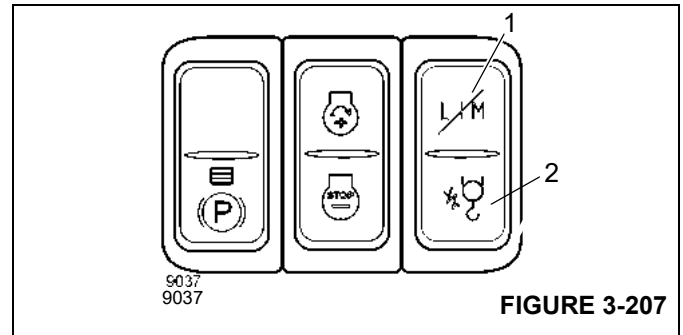

FIGURE 3-207
Switch (1), (Figure 3-207) for overriding the following lockouts:
Switch (2), (Figure 3-207) for overriding the following lockouts: